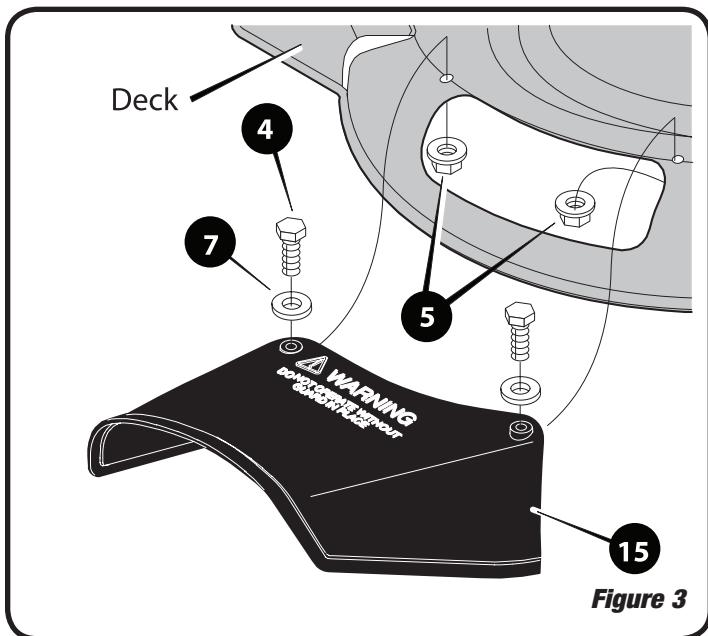

Figure 3
1. Holding the holes on the discharge guard (item 15) aligned with corresponding holes in the mower deck, insert hex bolts (item 4) through the washer (item 7), discharge guard (item 15) and through the deck.
2. Secure each bolt with a lock nut (item 5) as shown in Figure 3.